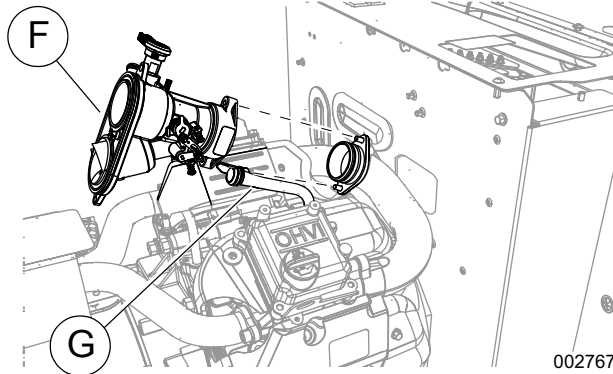

Figure 9. Disconnecting the Mixer
- See Figure 9. Disconnect and remove the mixer (F) to expose the breather hose (G).